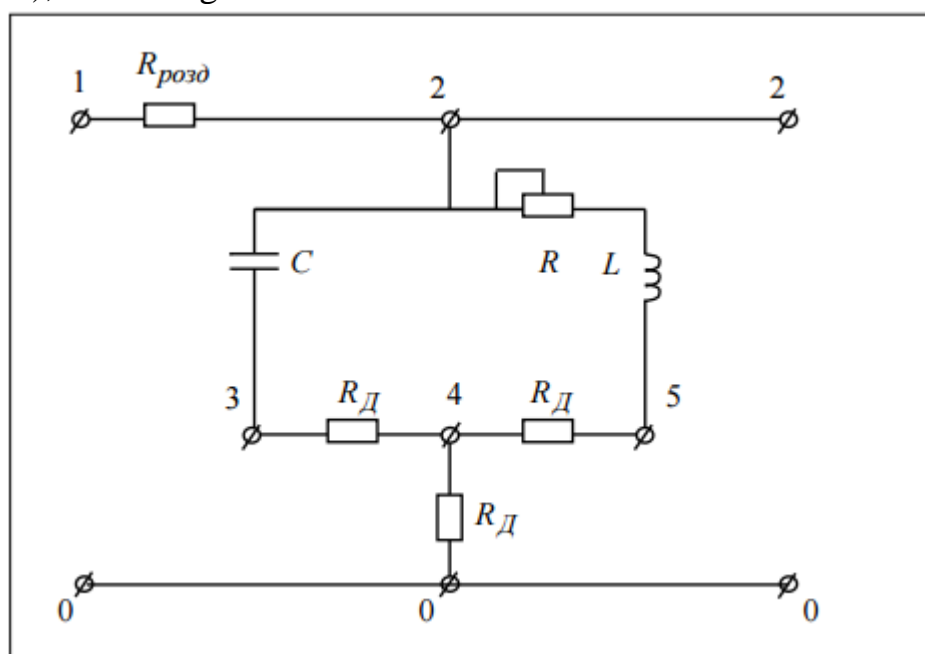

Fig.4.10
Laboratory settings consist of the power supply, clamps terminal, board (fig.4.10), measuring devices.
1. Collect the circuit (fig. 4.10). Set the minimum value of resistance R . Switch on the generator and oscilloscope. Set the input circuit voltage within the range of 0-10 V. By changing the voltage frequency within the range of 20Hz-20KHz, define the resonance frequency ω_0 , taking into consideration that the currents in that case have equal magnitudes and opposite phases.
The name and purpose of the work. Homework – the calculation of the circuit. Schematic diagrams of the investigated circuit (fig. 4.10). Tables 4.2-4.5. The graphs and vector diagram. Conclusions.